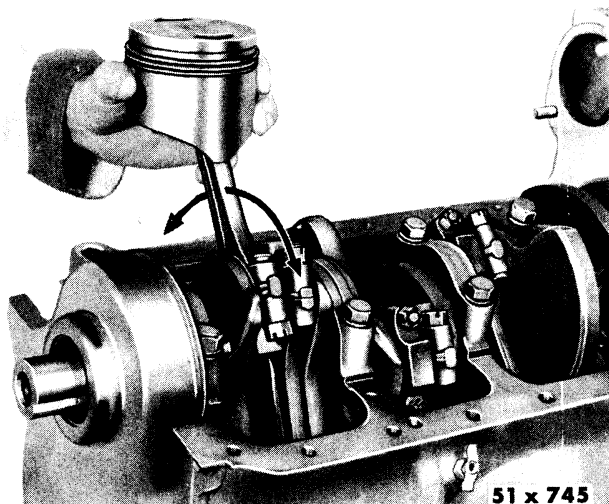

Fig. 120—Checking Connecting Rod Bearing Clearance (Typical)
- (1) Place a piece of oiled .001 inch feeler stock ($\frac{1}{2}$ inch wide and $\frac{3}{4}$ inch long) between the bearing shell and crankshaft journal. Install the bearing cap and tighten the nuts to 45 foot-pounds torque.
- (2) Move the connecting rod and piston from side to side, as shown in Figure 120. A slight drag should be felt as the rod is moved. This will indicate that the clearance is .001 inch or less, which is satisfactory. If the connecting rod is difficult to move, the bearing shell is too small and should be replaced with the correct size. Fit remaining connecting rod bearing shells in like manner.